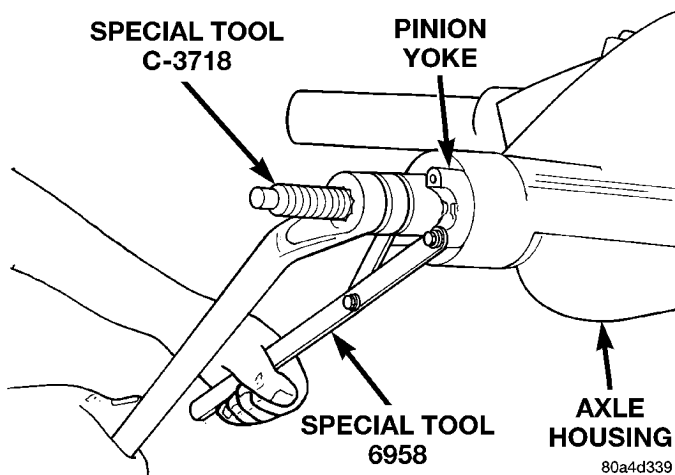

Fig. 48 Pinion Yoke Installation
(8) Install yoke with Installer C-3718 and holder 6958 (Fig. 48).
(9) Install the yoke washer and a new nut on the pinion gear. Tighten the nut to 298 N·m (220 ft. lbs.) minimum. **Do not over-tighten.** Maximum torque is 380 N·m (280 ft. lbs.). pinion gear nut to decrease